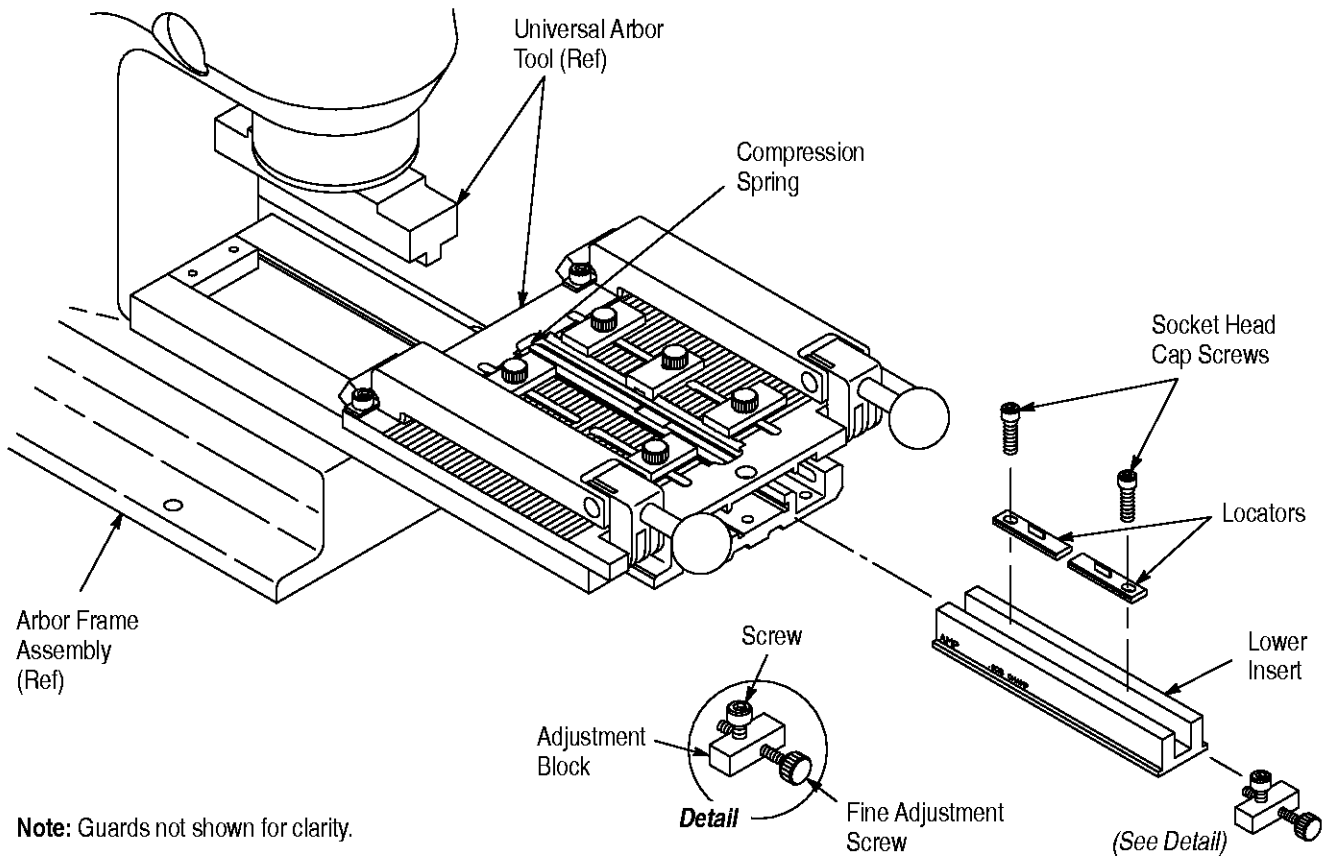

Figure 2
1. Secure the locators onto the lower insert using the socket head cap screws. Tighten the screws just enough to hold the locators in place. Refer to Figure 2.
4. Remove the screw that secures the adjustment block to the universal arbor tool, then remove the adjustment block. Slide the lower insert onto the base assembly until it is against the compression spring. See Figure 2.
5. Re-assemble the adjustment block. **Make sure** to orient the block so that the fine adjustment screw is closest to the right side and bottom side of the block. See detail in Figure 2.